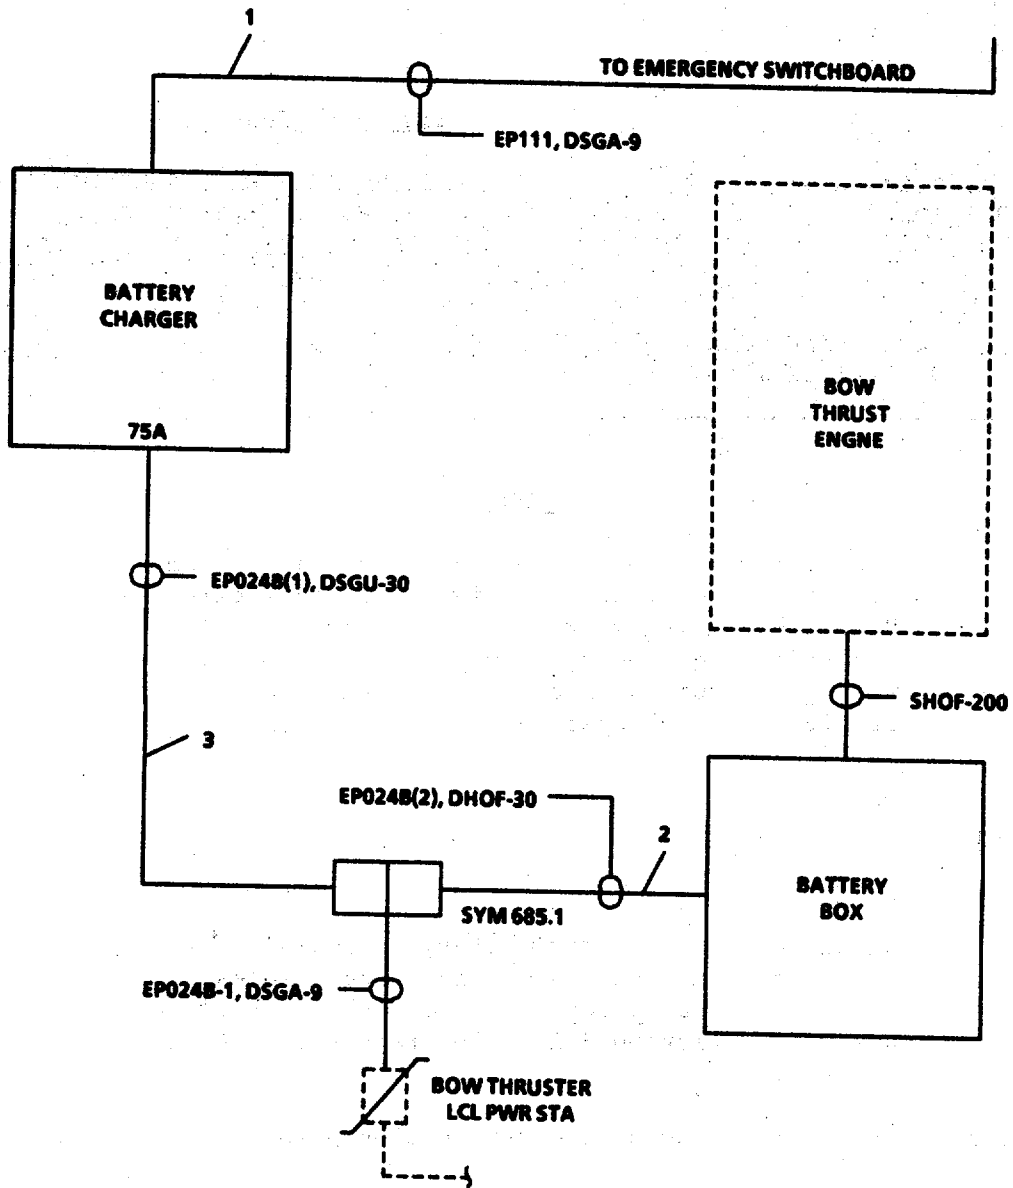

FIGURE 3-167. *Bowthruster Engine Battery Assembly.*
**3-184. Repair Bow Thruster Battery Assembly. (Figure 3-167)**